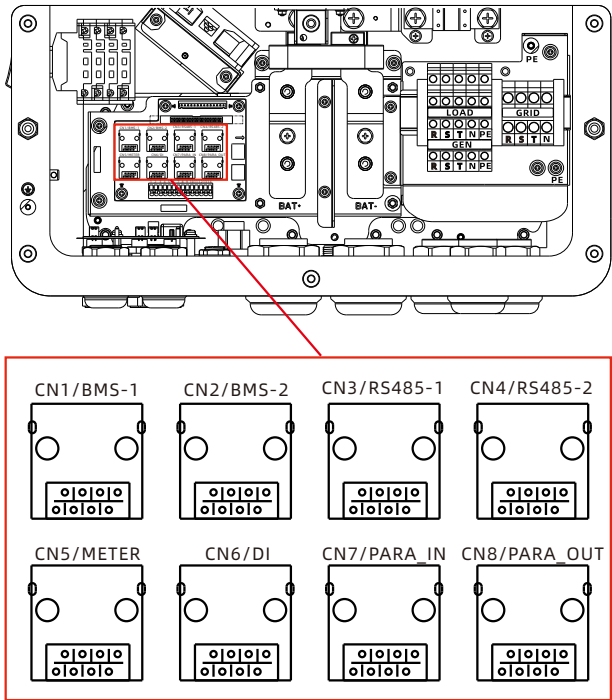

Fig 6.17 Communication network port
- 3> Connect the communication cable terminals according to the single board silkscreen as shown in Fig 6.17.